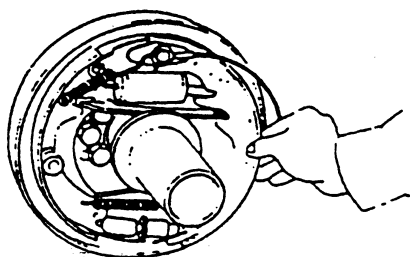

Fig.2-15
(4) Remove the primary and secondary shoes. At the same time, remove the adjuster and adjuster spring. See Fig. 2-15.